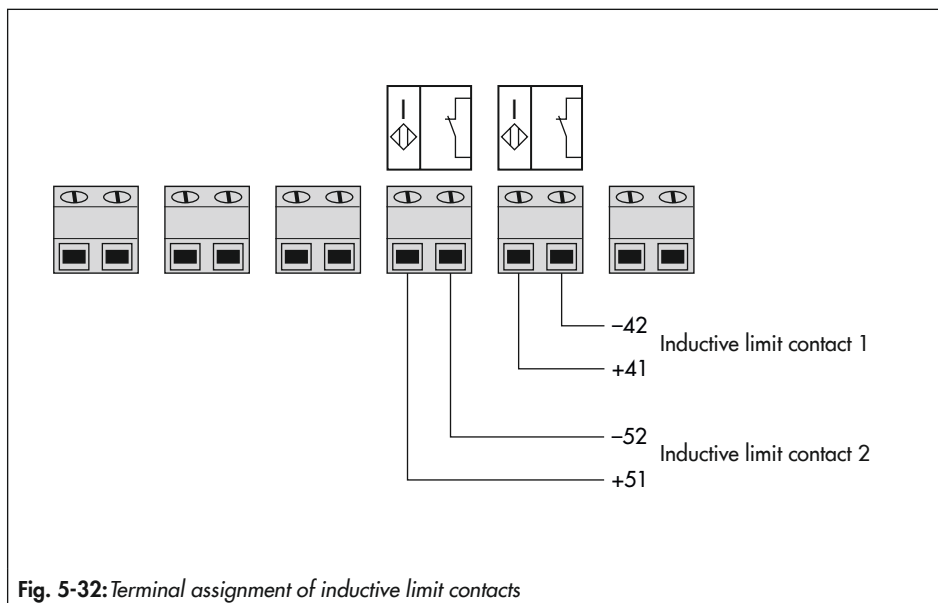
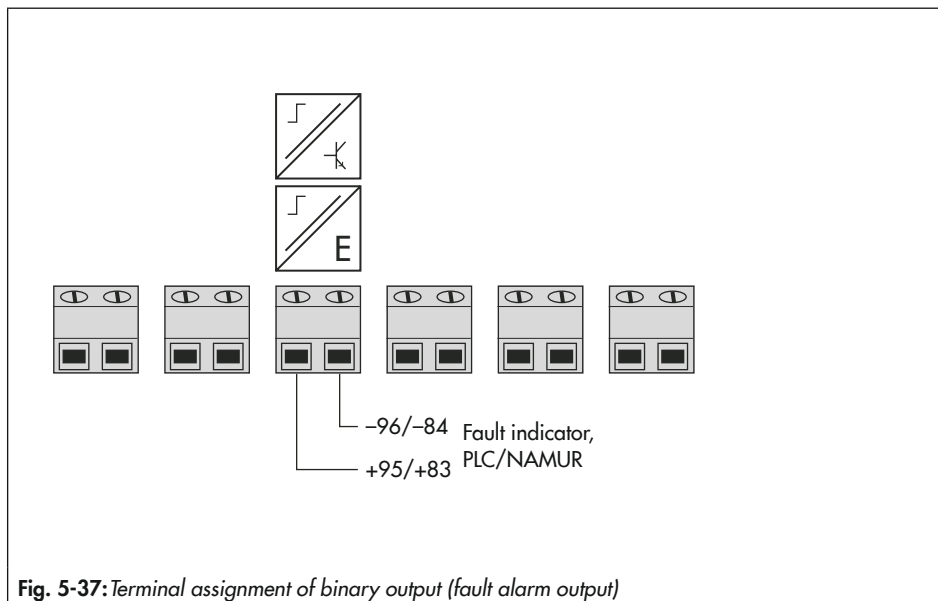

Fig. 5-32: Terminal assignment of inductive limit contacts
Fig. 5-37: Terminal assignment of binary output (fault alarm output)
- Connect options as shown in Fig. 5-32 to Fig. 5-37, if necessary.